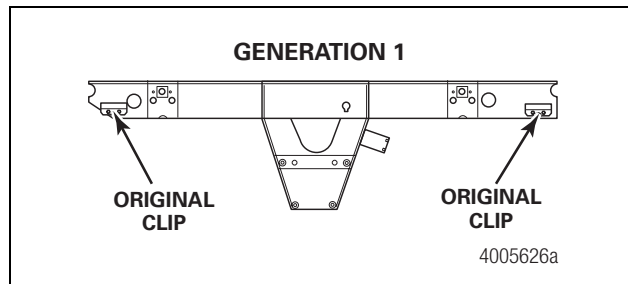
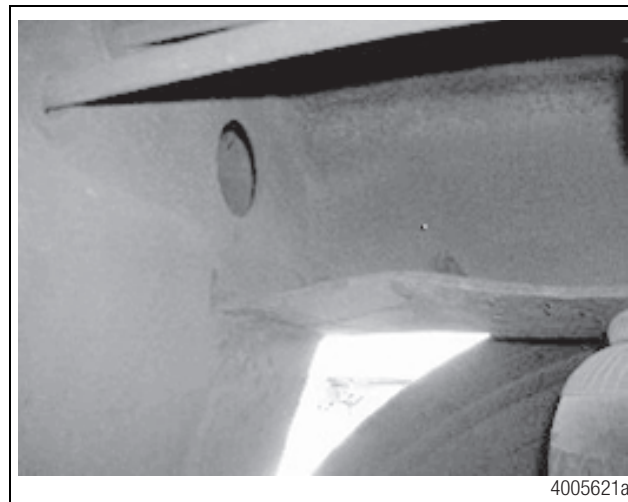

Figure 14
Figure 15
2. Identify the slider. Figure 14 and Figure 15.